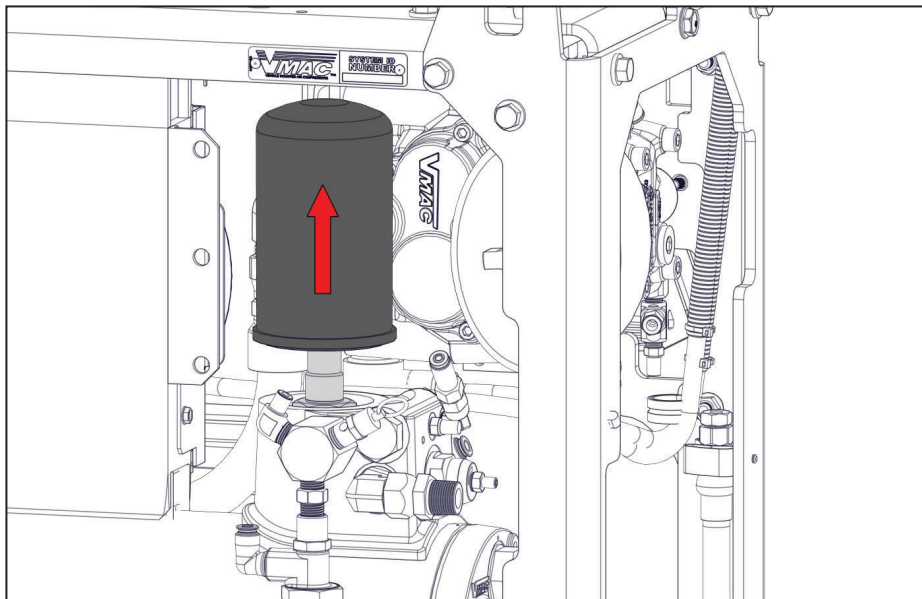

Figure 37 — Coalescing filter
- Remove the spin on coalescing filter by turning it counterclockwise (Figure 37).
- Clean the gasket sealing surface and inspect it for damage. The surface must be free of old gasket material and smooth to ensure a good seal (Figure 37).